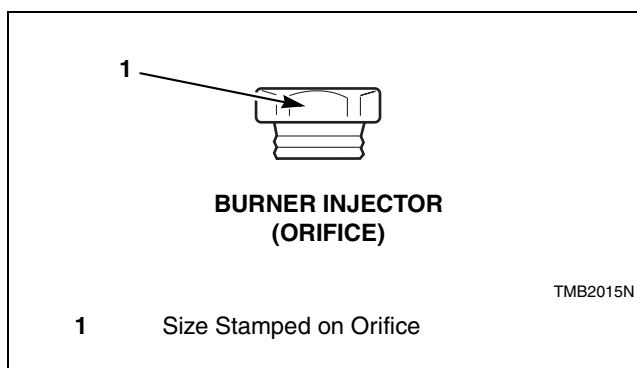

Figure 8
3. Install the new, correct injector(s) (orifices). Refer to *Figure 8*. Torque each to 9 – 10 Nm.